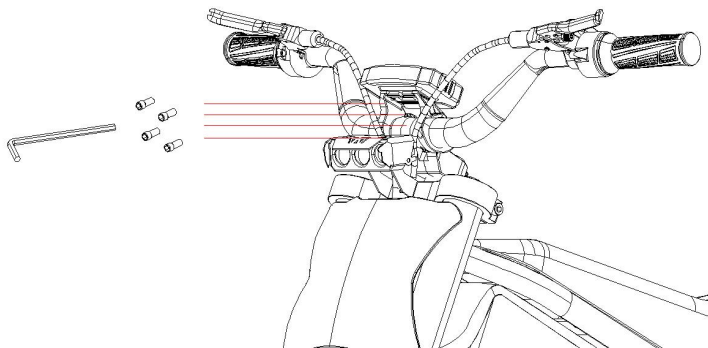
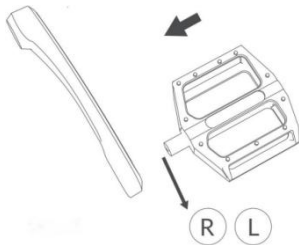

Figure 2
Figure 1
2.2.Assemble the handlebar: Put the handlebar into the center of the vertical bar (Figure 1), fasten the screws by using NO.4 Allen Wrench
2.8. Assemble the pedal plate: Take out of the left and right pedal plate, “L” is for left side and “R” is for the right side (Figure 1) , put the pedal plate on the crank, fasten it by using the open spanner (Figure 2) .